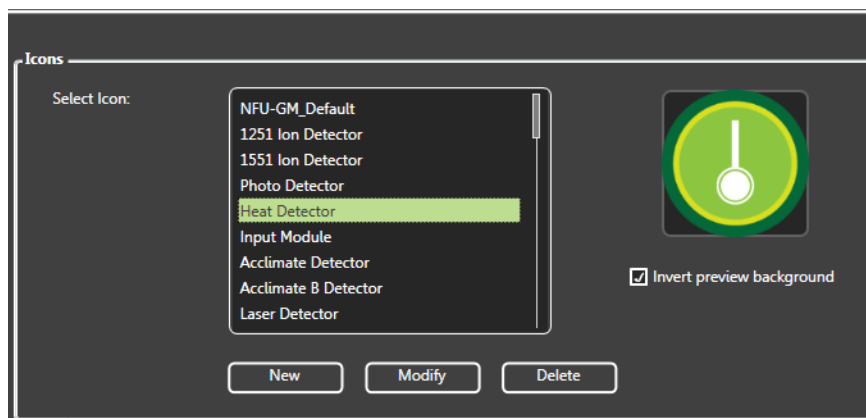

Figure 56 Icon Selection
4. Select an icon from the list of available icons (see Figure 56 on page 76).